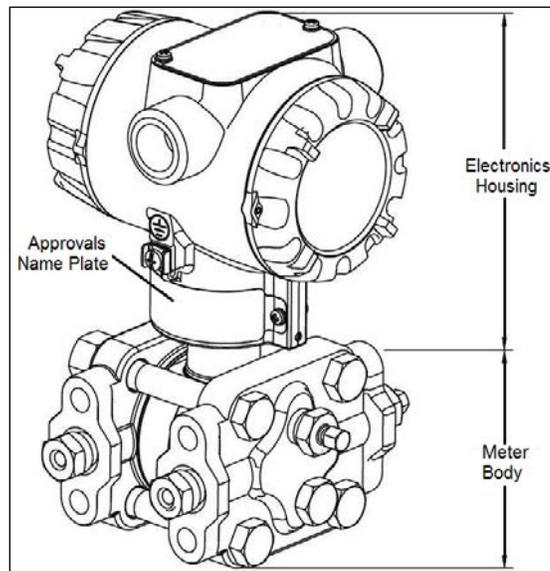
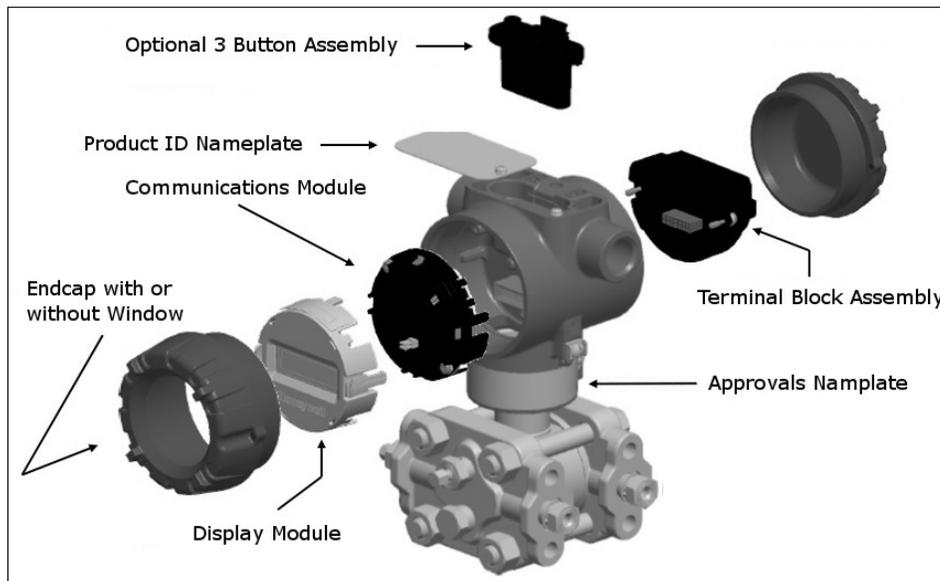
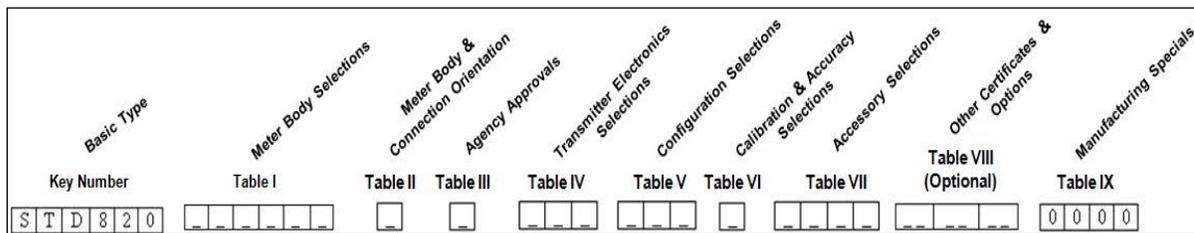

Figure 1 – ST 800 Major Assemblies
Figure 2 – Electronics Housing Components
Figure 3 –Typical Atmospheric or Gauge Pressure Transmitter Name Plate Information
As shown in Figure 1, the ST 800 is packaged in two major assemblies: the Electronics Housing and the Meter Body. The elements in the Electronic Housing respond to setup commands and execute the software and protocol for the different pressure measurement types. Figure 2 shows the assemblies in the Electronics Housing with available options.
The Transmitter nameplate mounted on the top of the Electronics Housing (see Figure 2) lists the model number, physical configuration, electronics options, accessories, certifications, and manufacturing specialties. Figure 3 is an example of a typical Differential Pressure (DP) or Gauge Pressure (GP) or Atmospheric Pressure (AP) Transmitter name plate. The model number format consists of a Key Number with several table selections. The Differential Pressure (DP), Absolute Pressure (AP), and Gauge Pressure (GP) name plates are essentially the same. However, the DP provides one additional entry (7 vs. 6 characters) in the Meter Body Selections (Table I) to accommodate the static pressure rating.
An “approvals” name plate is located on the bottom of the Electronics Assembly; see Figure 1 for exact location. The approvals name plate contains information and service marks that disclose the Transmitter compliance information. Refer to Appendix C of the *ST 800 SmartLine Transmitters User’s Manual*, document number 34-ST-25-35 for details.
Zero and Span adjustments are possible in new generation ST 800 SmartLine Pressure Transmitters by using the optional three-button assembly located at the top of the Electronic Housing (see Figure 2). However, certain capabilities are limited in the following configurations: